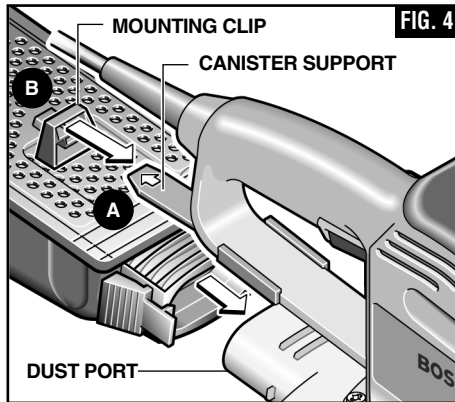

FIG. 4
To attach dust canister, slide canister support in direction of arrow (A) until it stops. Insert mounting clip into the pocket provided on canister. Then slide canister support through mounting clip in direction of arrow (B) and push onto the dust port (Fig. 4).